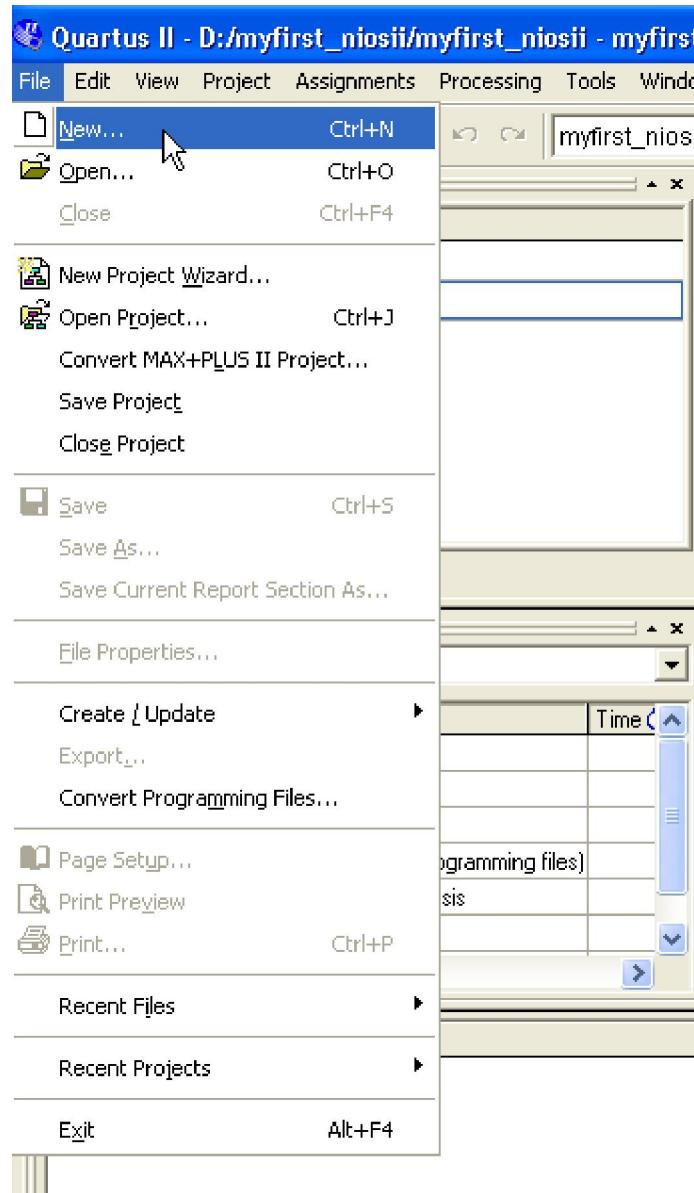
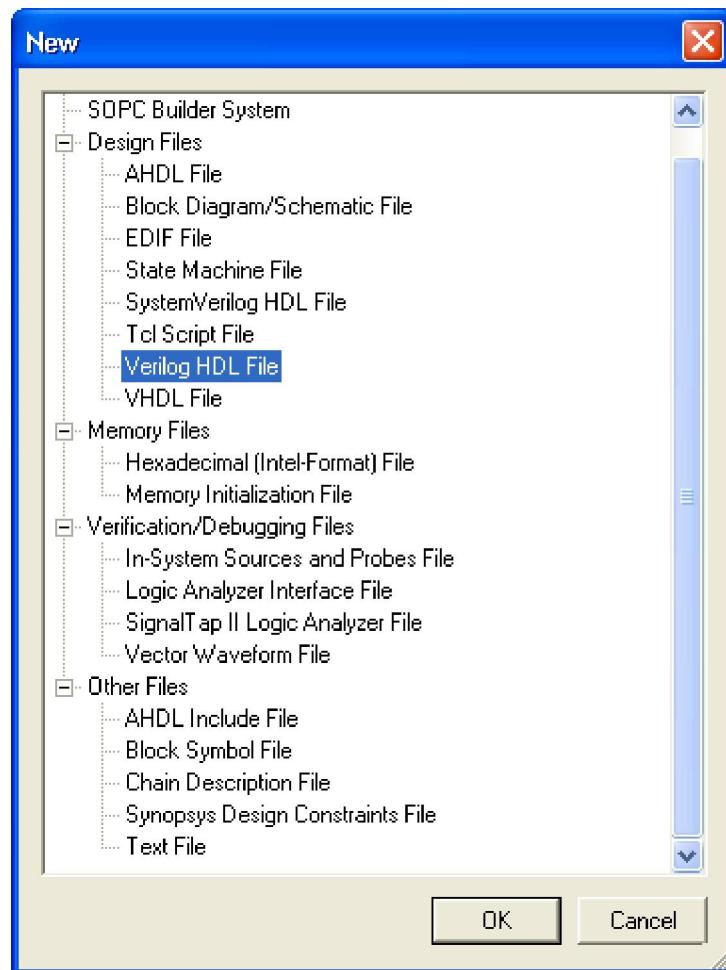

Figure 1-40 New Verilog file
Figure 1-41 New Verilog File
25. Choose File > New to open new files wizard. See **Figure 1-40** and **Figure 1-41**.